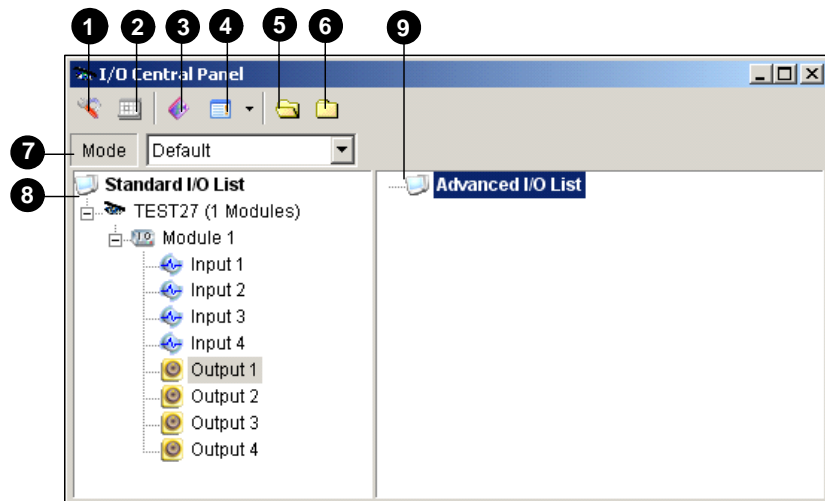

Figure 2-14
[Display Setting] You can define the nature of I/O devices by colors. Note that the setting only affects the **Detail** style of the Advanced I/O List (No. 4, Figure 2-14).
1. Click the Mode drop-down list (No. 7, Figure 2-14), and select **More Edit**. This dialog box appears.
4. To start the mode schedule, click the **Mode Schedule** button (No. 4, Figure 2-14), and then select **Mode Schedule Start**.
- To open the Quick Link window, click the **Toggle Quick Link** button. (No. 3, Figure 2-14).
1. To switch to the Icon style, click the **Advanced I/O List Style** button (No. 4, Figure 2-14) and then select **Icon**.